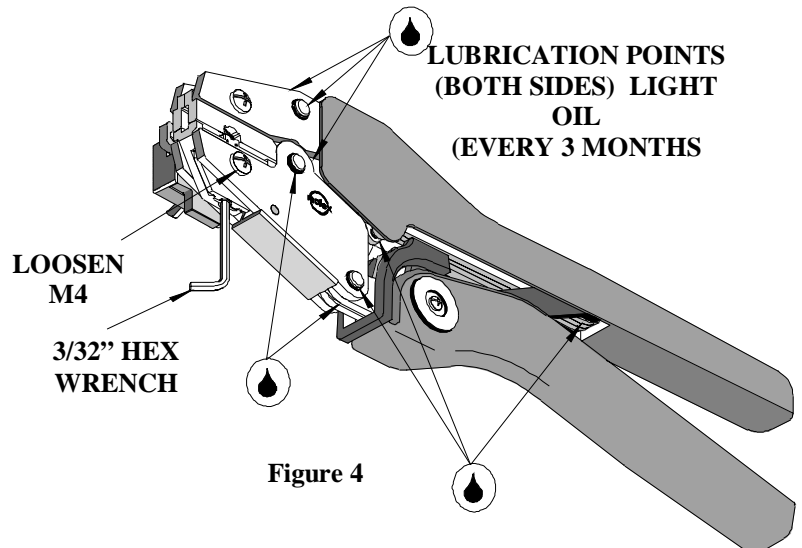

Figure 4
4. If the insulation part of the crimp needs to be adjusted, first loosen the M4 screw on the bottom tool jaw, then insert a 3/32 hex wrench (supplied) into the bottom of the lower die (See Figure 4). A clockwise (CW) rotation decreases insulation crimp while a counter-clockwise (CCW) rotation increases insulation crimp. After adjusting retighten the M4 screw.
The 64001-0500 (RHT-5765) was engineered for durability, but like any fine piece of equipment it needs cleaning and lubrication for a maximum service life of trouble-free crimping. A light oil, such as 30 weight automotive oil used at the oil points shown in Figure 4, every 5,000 crimps or 3 months will significantly enhance the tool life and ensure a stable calibration.